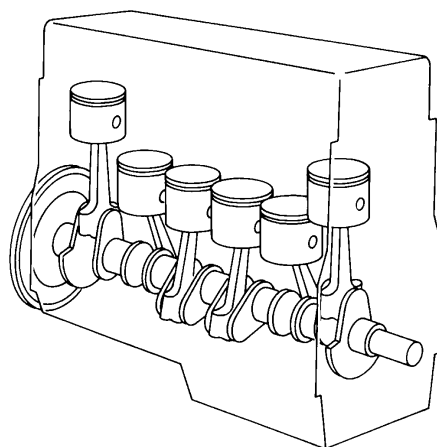

Figure 5.9 In line or straight engine layout
- In line or straight (Figure 5.9). The cylinders are in a vertical, inclined or horizontal straight line.